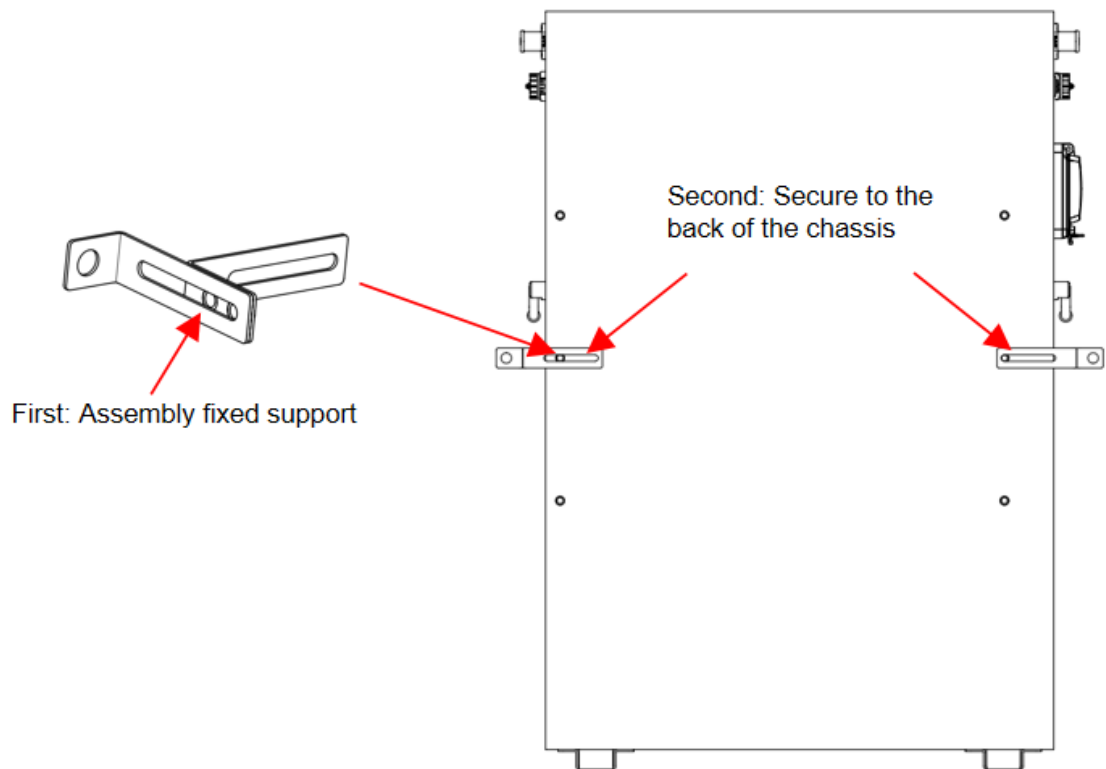

Figure 5-4
e) Use the 4 screws of M6*12 to fix the left and right retaining ears to the back of the battery, The distance between the two supports ranges from 563 to 589mm, and can be moved about 26mm, as shown in Figure 5-4.